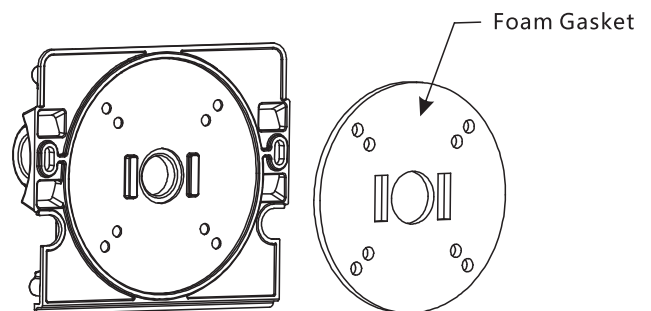

Fig. 4
4. Apply Foam Gasket (provided) to external surface of the Housing Back Plate by removing yellow plastic film and adhering to Housing Back Plate as shown in Fig. 4.